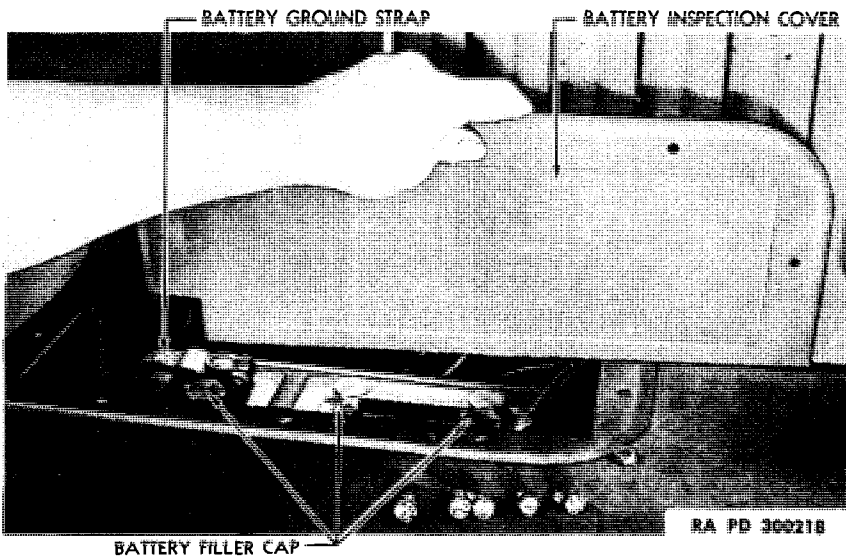
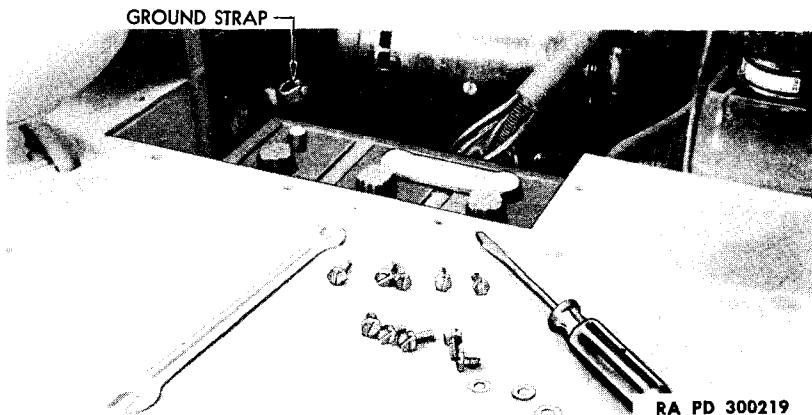

Figure 132—Removing Battery Inspection Cover
Figure 133—Battery Ready for Removal
c. Battery Removal. Remove five retaining screws and lock washers from engine side panel and lift off battery. Remove the five retaining screws and lock washers from the battery cover, and lift off cover (fig. 132). Loosen the grounded (positive) terminal and lift it off terminal post. As removal of the grounded lead prevents the possibility of destructive arcs if metal tools accidentally short circuit a negative terminal to the compartment or frame, first loosen two clamp bar nuts on inner side of battery box, and lift battery out (fig. 133).
c. Cable Removal. Always first loosen and remove cable from grounded terminal, regardless of what cables are to be removed (fig. 133), then proceed with the removal of desired cable. Loosen battery end terminal and lift off. Unscrew the terminal nuts on other end and remove cable. Remove switch to cranking motor cable by unscrewing terminal nuts and removing cable.